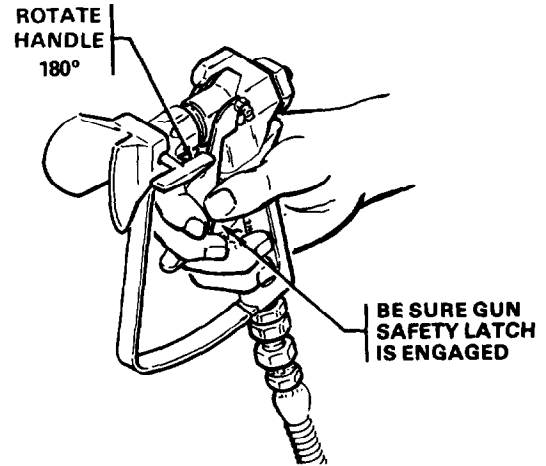

Fig 6
- b. If the spray tip does clog, release the gun trigger, engage the gun safety, and rotate the spray tip handle 180°. See Fig 6.